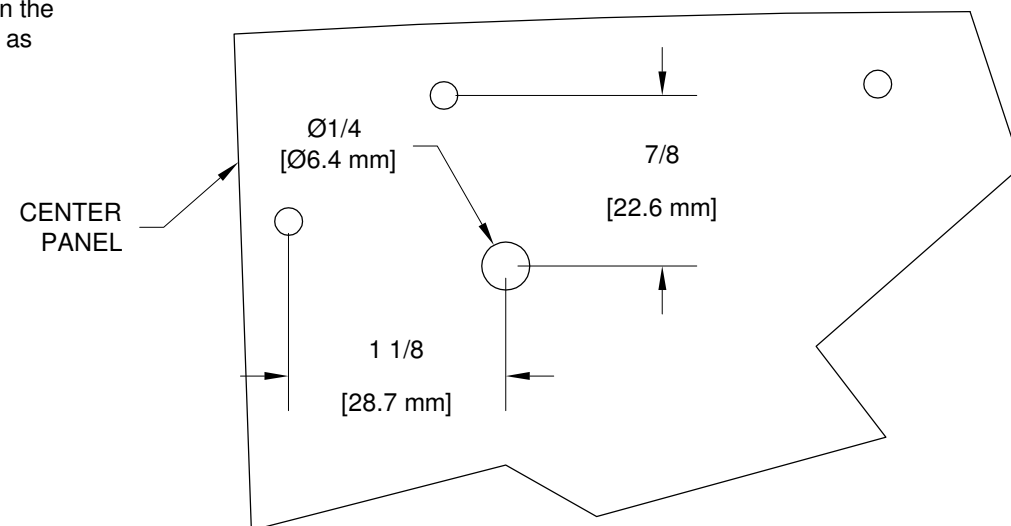

FIGURE 2: DIMMER HOLE
Step 3: Drill 1/4 the dimmer hole in the center panel if not already present as shown in Figure 2.